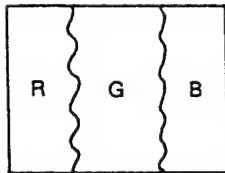

Fig. 1-4.
8. Rotate the Purity knob, and adjust so that the green comes to the center of the screen as shown in Fig. 1-4.